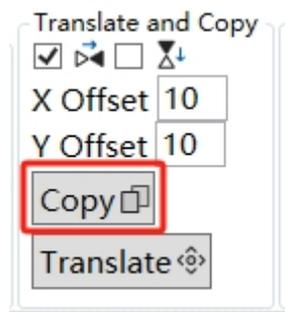
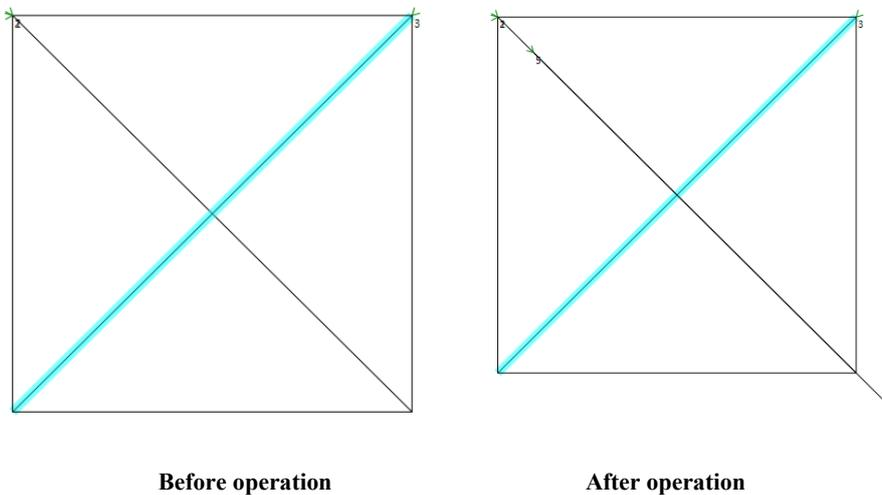

Fig. 5.3.6f Click Copy
Fig. 5.3.6g Schematic Diagram of Copy Operation
⑤ Click the copy button to mirror its original graphic and move it a distance before copying it into a new graphic. As shown in Fig. 5.3.6f below. The graphical changes are shown in Fig. 5.3.6g.